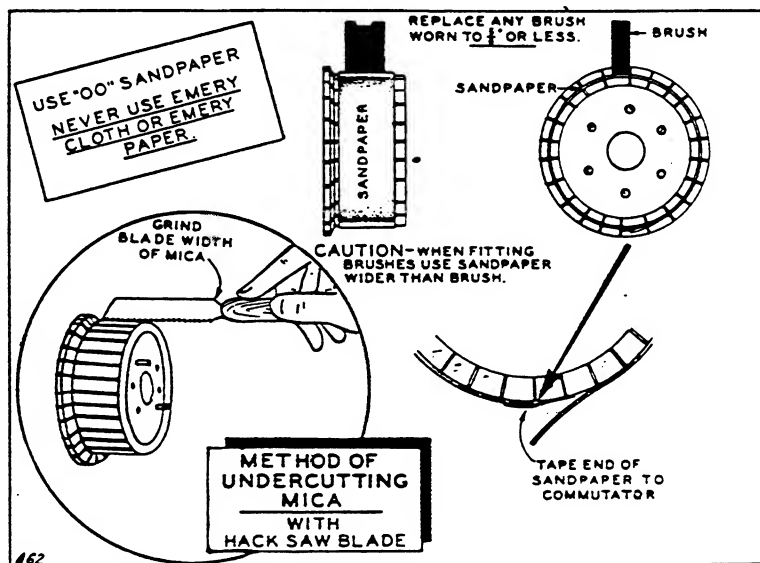

FIG. 49 - CARE OF COMMUTATOR AND BRUSHES
**COMMUTATOR.** - The commutator bars wear down with usage so that the mica between them must be undercut. This should be done whenever the mica on any part of the commutator touches the brushes. A suitable undercutting tool can be made from a used hack saw blade. Use it as shown in Fig. 49. Avoid injury to the surfaces of the commutator bars. Leave no burrs along the edges of the bars. The mica must also be undercut whenever the commutator is refinished.